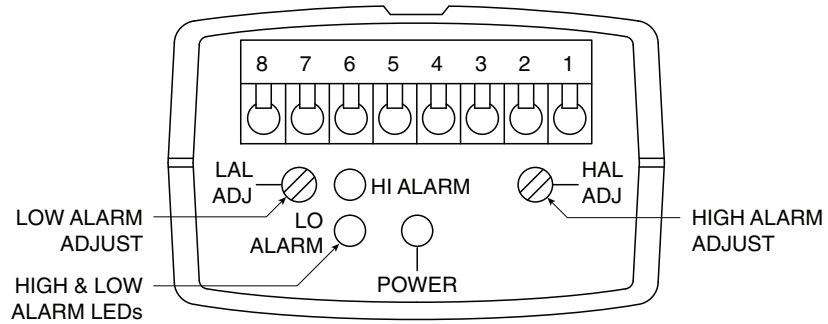
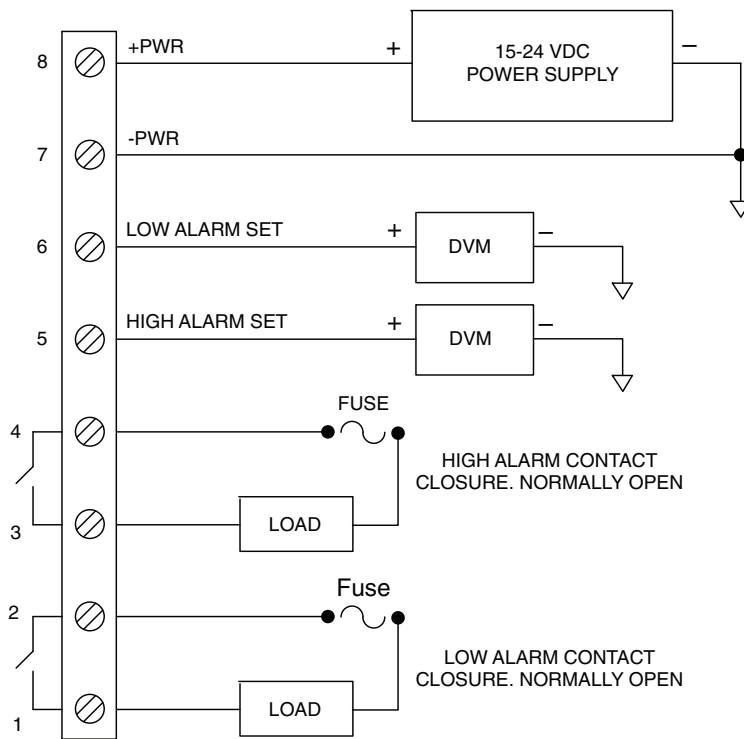

Figure 2-1. FST1000 Back Plate View
Figure 2-2. Typical Wiring Diagram
5. Connect your wirings to the terminal block in the back of the unit. Figure 2-1 shows the back plate. The back plate has the terminal block connections, and two potentiometer adjustments for high and low alarm set point. It also has two red LED alarm indications, and the green LED for power indication. Figure 2-2 shows a typical wiring diagram.